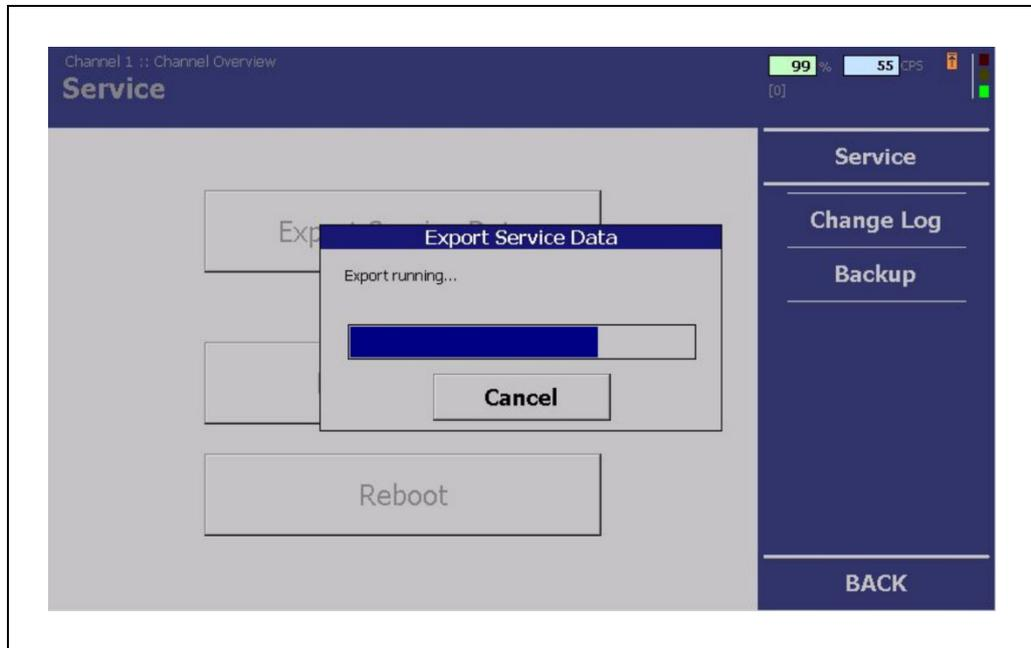

Fig. 76 "Channel Overview" Menu, Service - Backup/restore is running
3. Click on <Backup Settings> Fig. 76, Item 1).
2. Click on <Restore Settings> (Fig. 76, Item 2).